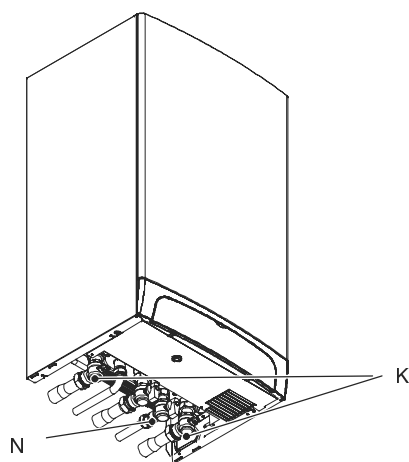

Fig. 2.9 – bottom view of the boiler
- 1 Close the c.h. circuit flow and return cocks *K*. (Fig. 2.9).
- 6 Close the d.c.w. inlet cock *N* (Fig. 2.9);